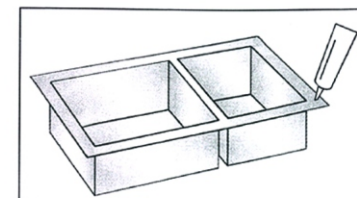

FIGURE 4
7. Clean sink flange and underside of cutout area of countertop, making sure that the area is smooth and free of grease. Apply continuous bead of silicone caulk evenly on top of sink flange. (FIGURE 4)